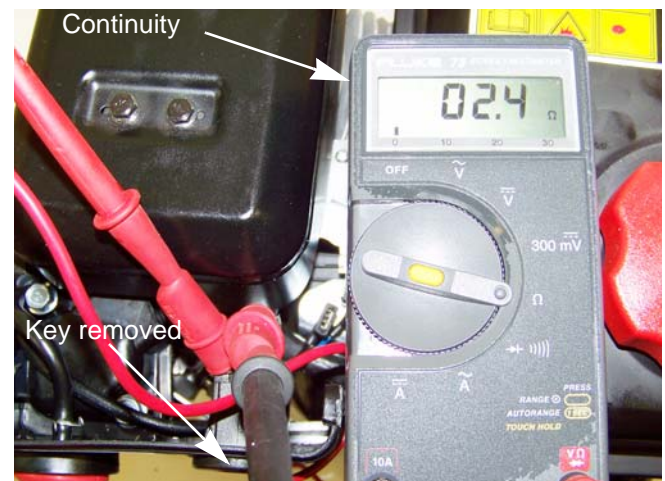

Figure 7.7
- With the key removed, the meter should show continuity. See Figure 7.7.